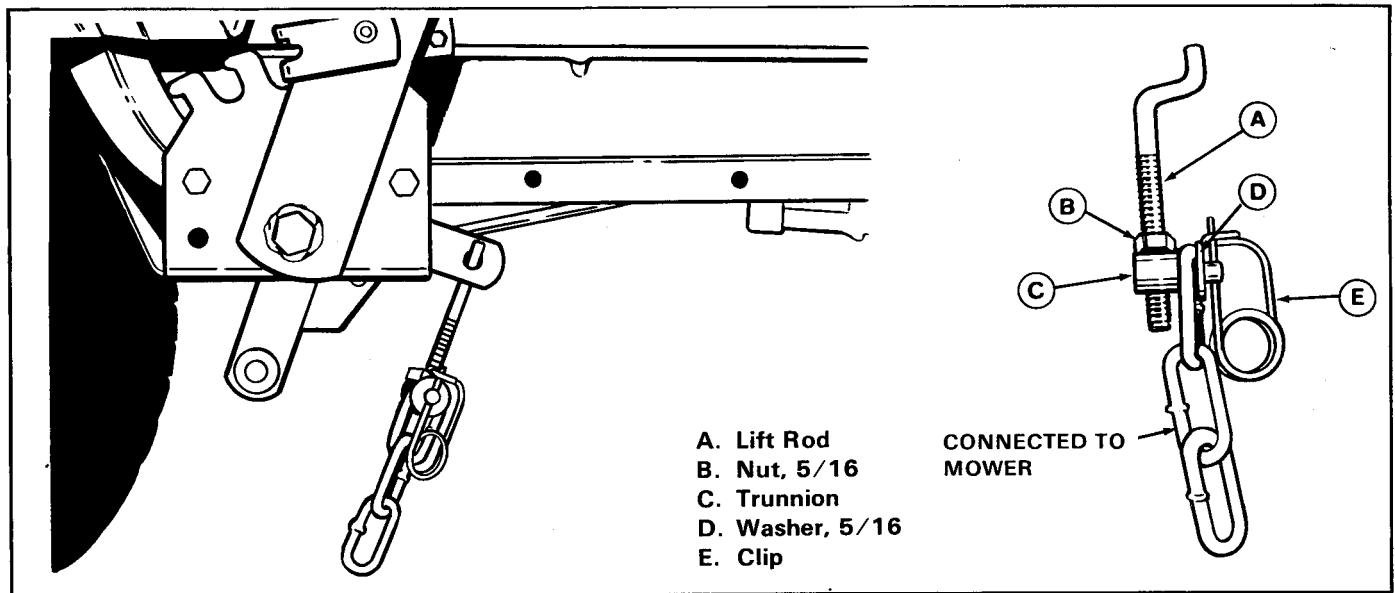

Figure 7.
2. Insert the lift rod (A, figure 7) into tractor lift arm and pivot back and down. Install the nut (B), trunnion (C), lift chain (connected to mower), washer (D) and clip (E) as shown.
- c. To adjust, remove clip to remove chain from trunnion (C, figure 7). Loosen nut and turn the trunnion to raise or lower. Tighten nut when adjustment is correct.
- c. To adjust, remove clip to remove chain from trunnion (C, figure 7). Loosen nut and turn the trunnion to adjust. Tighten the nut when adjustment is correct.